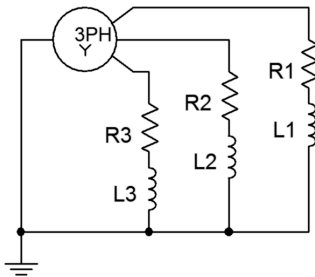

Figure 9.6
11. A 3-phase Y connected generator feeds a Y connected load consisting of 3 legs of $10\ \Omega$ in series with $j4\ \Omega$ of inductive reactance, as shown in Figure 9.6. If the line voltage is 208 volts, find the voltage across each load leg, the line current, and the apparent and real powers drawn by the load.
12. Given the wye-wye system of Figure 9.6, if the line voltage is 400 volts and the load is balanced with each leg at $100 + j20\ \Omega$, determine the generator phase voltage, line current, generator phase current, load current, the voltage across each load leg, and the total real and apparent load powers.